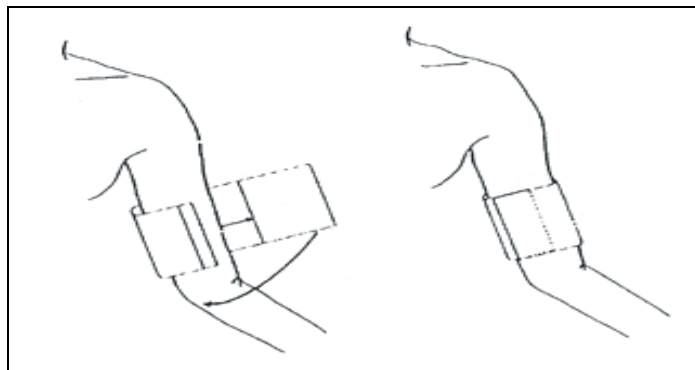

FIGURE 2-3 Application of the Blood Pressure Cuff
4. Apply the cuff to the patient as shown in FIGURE 2-3. Ensure that the cuff is deflated and lies directly against the patient's skin. The cuff should fit snugly. There should be no clothing between the patient's skin and the cuff.